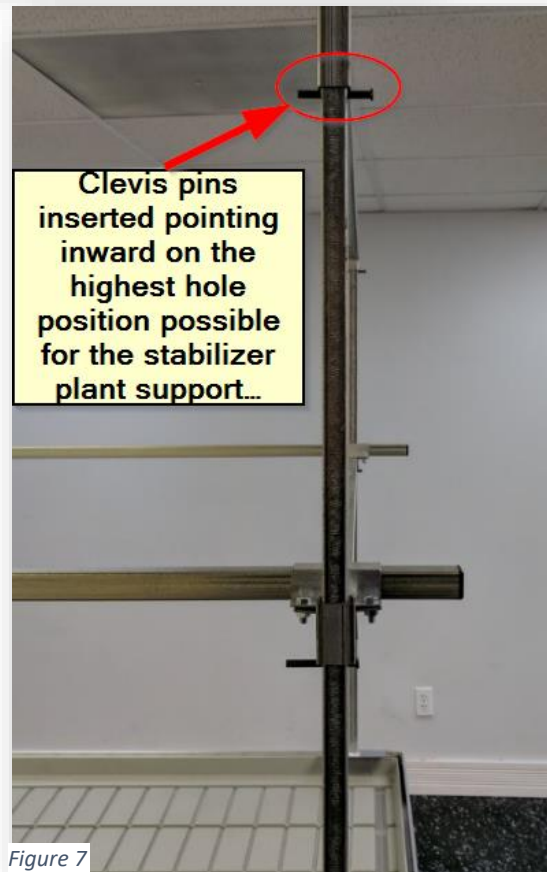

Figure 7
6. Next, take additional clevis pins (**A14**) and insert them at the highest holes of the upright posts. You'll do this on all four corners of the bench as well as on any upright posts located above any maxroll anti tip headers for larger tables. See *Figure 7*.